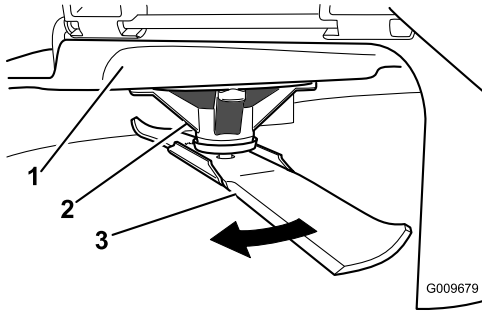

Figure 52
2. While wearing thickly padded gloves, or other adequate hand protection, slowly rotate the blade to be measure into a position that allows effective measurement of the distance between the cutting edge and the level surface the machine is on (Figure 52).